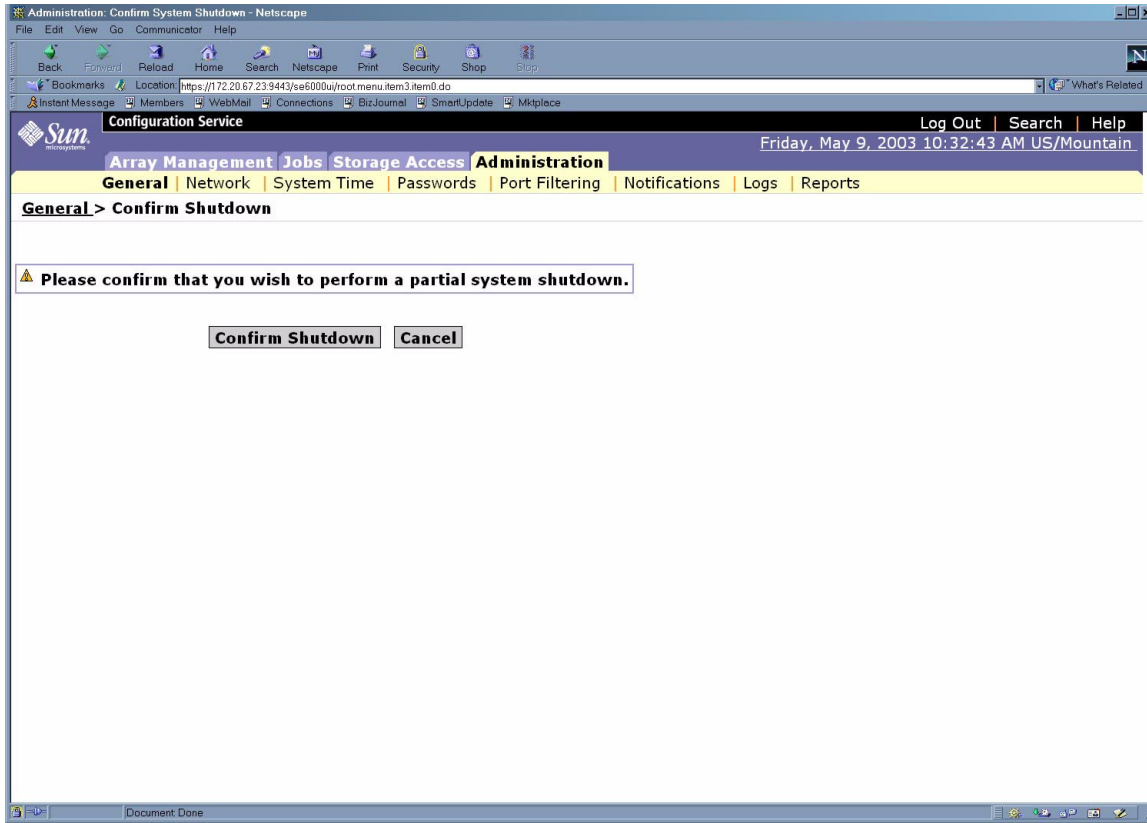

FIGURE B-10 Partial Shutdown Confirm Shutdown Page
7. The Partial Shutdown Confirmation page is displayed as shown in FIGURE B-10. Confirm the partial shutdown.